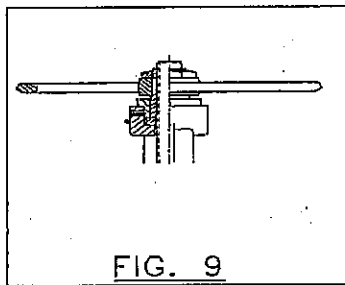

FIG. 9
- *Figure 9* ► it represents the nut of actuation without presses on bearing. This construction is used with an opening torque and whose size does not require a bearing according to the API standard 600.